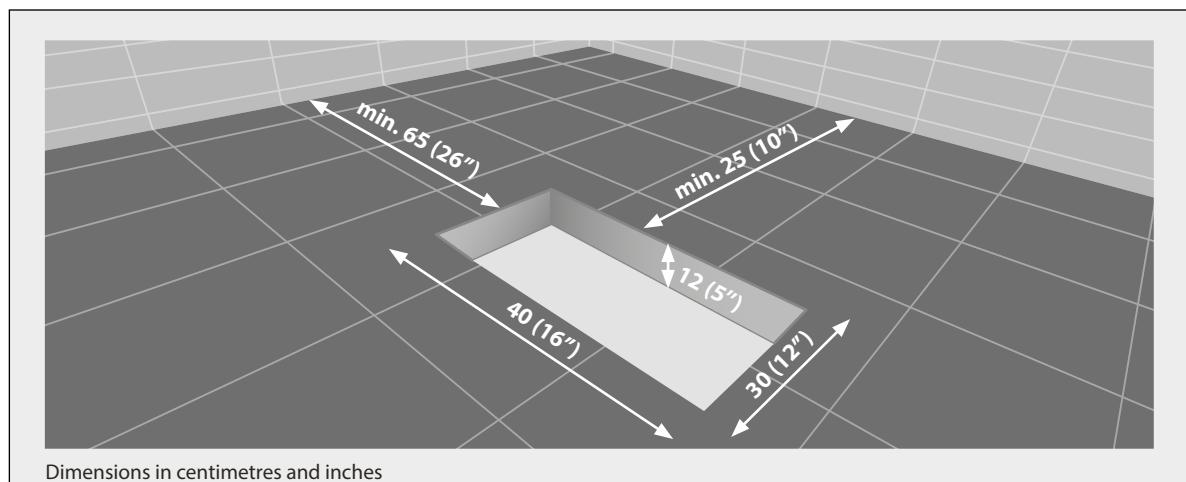

Fig. 2
- Make sure the floor and the platform (if mounted) offer a support of at least 800 kg (approximately 1800 lb) under the tub. Make sure the floor and supporting surface are flat and even. This tub can be installed on the floor or on a raised or recessed platform. If the tub is placed on the floor, drill a hole of the size indicated in the figure below; the trap must be suitably positioned bearing in mind the dimensions of the tub (see Fig. 2).